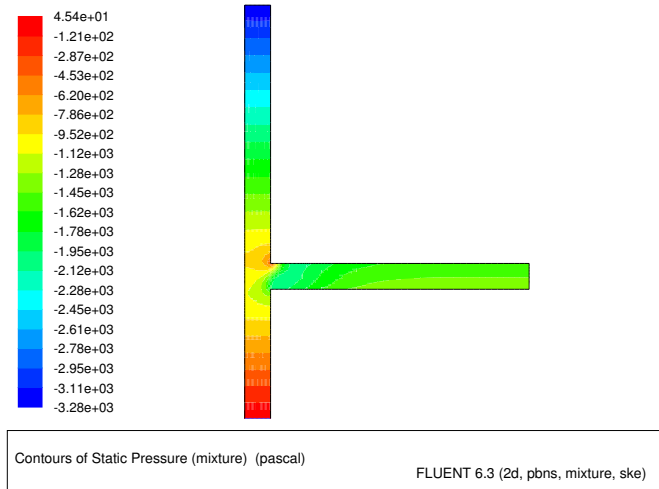

Figure 19.3: Contours of Static Pressure
1. Display the static pressure field in the tee (Figure 19.3).